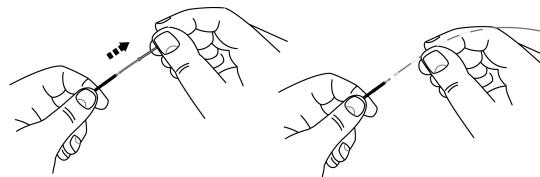

Figure 14
- To use an alternative BareWire Filter Delivery Wire, carefully remove the torque device and the Filter Delivery Wire and dispose of the Filter Delivery Wire used to load the device (See Figure 14).